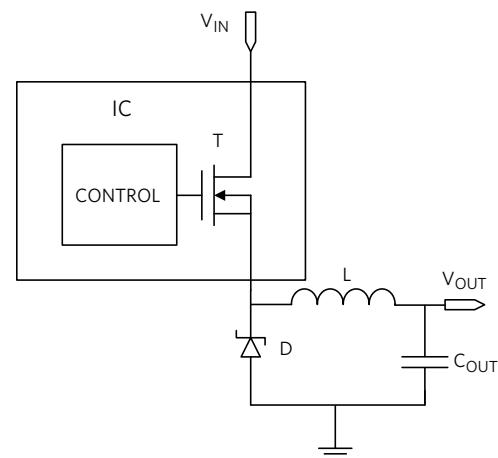

Figure 4. Nonsynchronous Buck Converter
For a 24V input and 5V output, the buck converter works with a duty cycle of about 20%. This means that the internal high-side transistor (T in *Figure 4*) conducts only 20% of the time. The external rectifier diode (D) conducts the remaining 80% of the time, which accounts for most of the power dissipation.